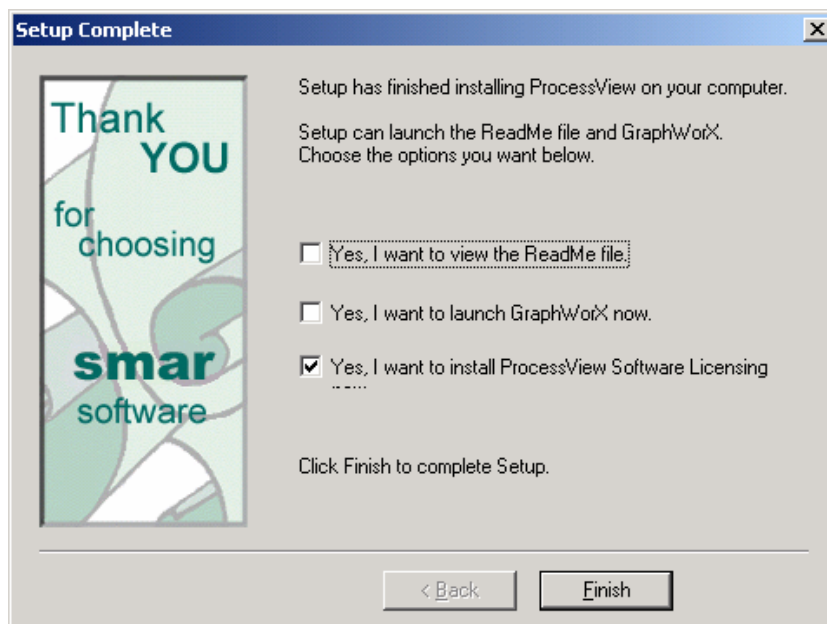

Figure 2.9. Installation Complete
14. Click the **Finish** button, as shown in **Figure 2.9**.